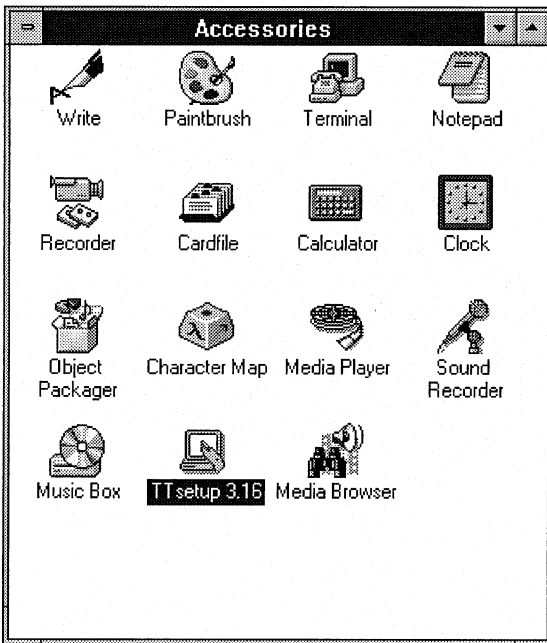

fig. A-10
1. Start Windows and open TTsetup (fig. A-10).